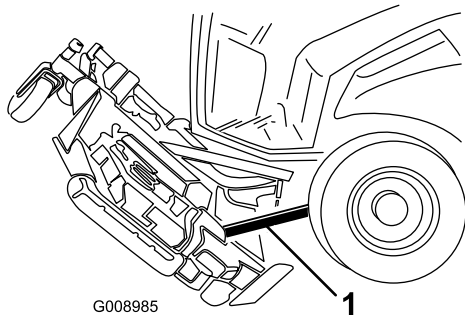

Figure 92
6. Wedge a block of wood between the rear of the deck and the machine (Figure 92).